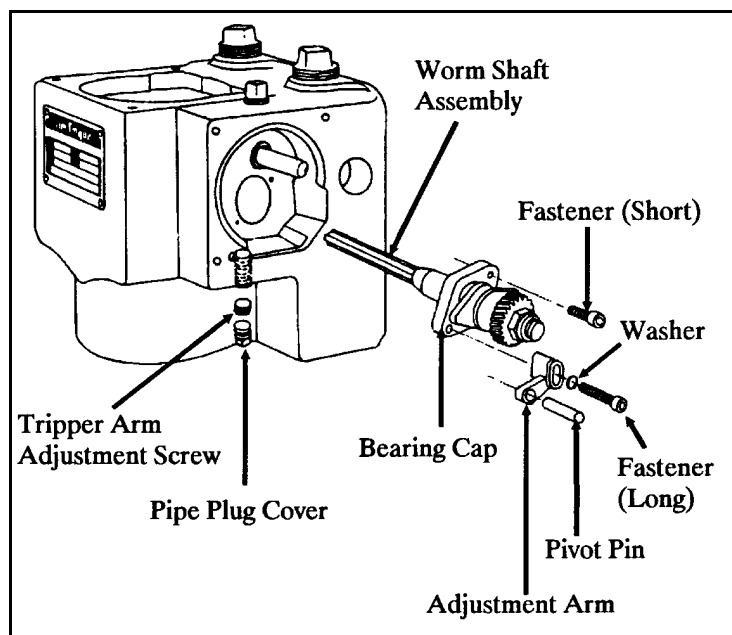

Figure 4-39 Worm Shaft Assembly Installation
20. Worm Shaft Assembly Installation Refer to Figure 4-39